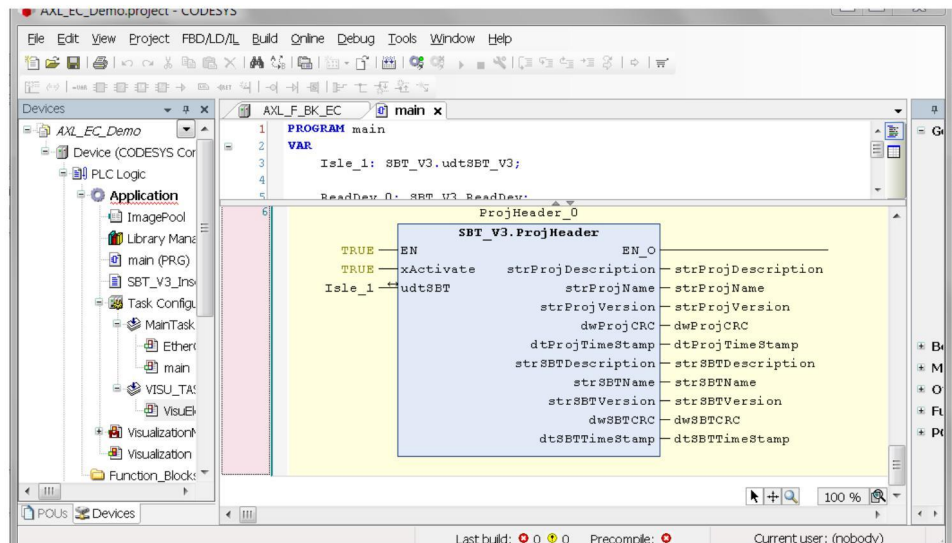

Figure 3-24 SBT_V3.ProjHeader function blocks
- Connect the function blocks as shown in Figure 3-24.